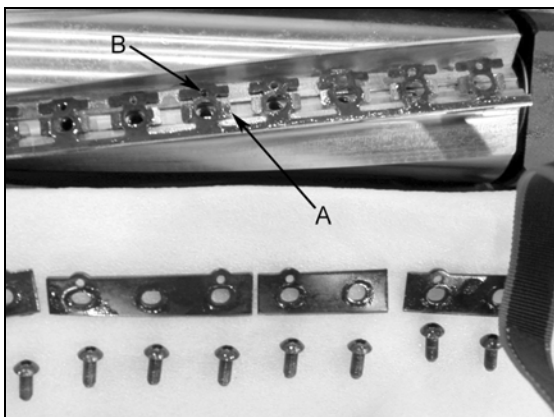

Figure 18
2. Set the new knife on the cutterhead as shown in Figure 18 by lining up the knife tabs 'A' in the slot and the index holes 'B' with the holes in the cutterhead.